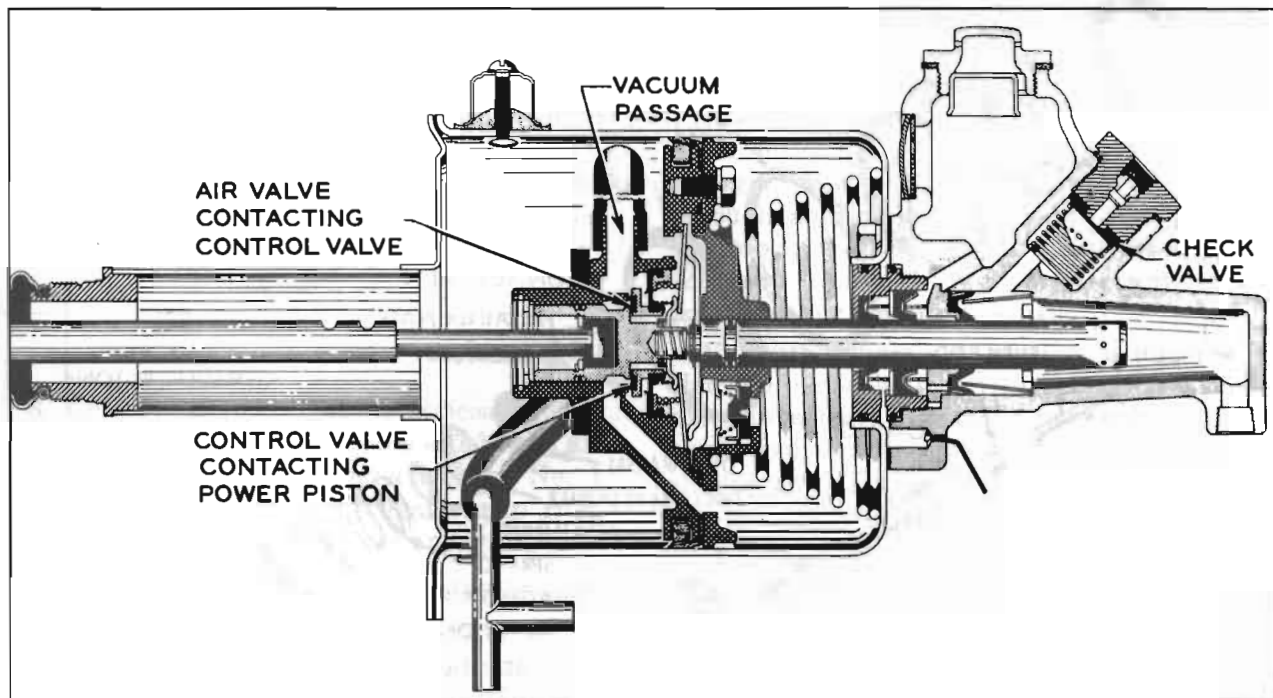

Figure 9-16—Holding
(4) *Holding.* When the desired brake apply pressure is reached and brake pedal is held poised, the power piston continues forward momentarily until it contacts the floating control valve. See figure 9-16. At this point, the air valve is also in contact with the control valve so that the passages to the *vacuum* chamber are sealed off from atmospheric pressure as well as vacuum; therefore the power piston is held stationary or poised, ready to move in either direction as dictated by brake pedal movement.